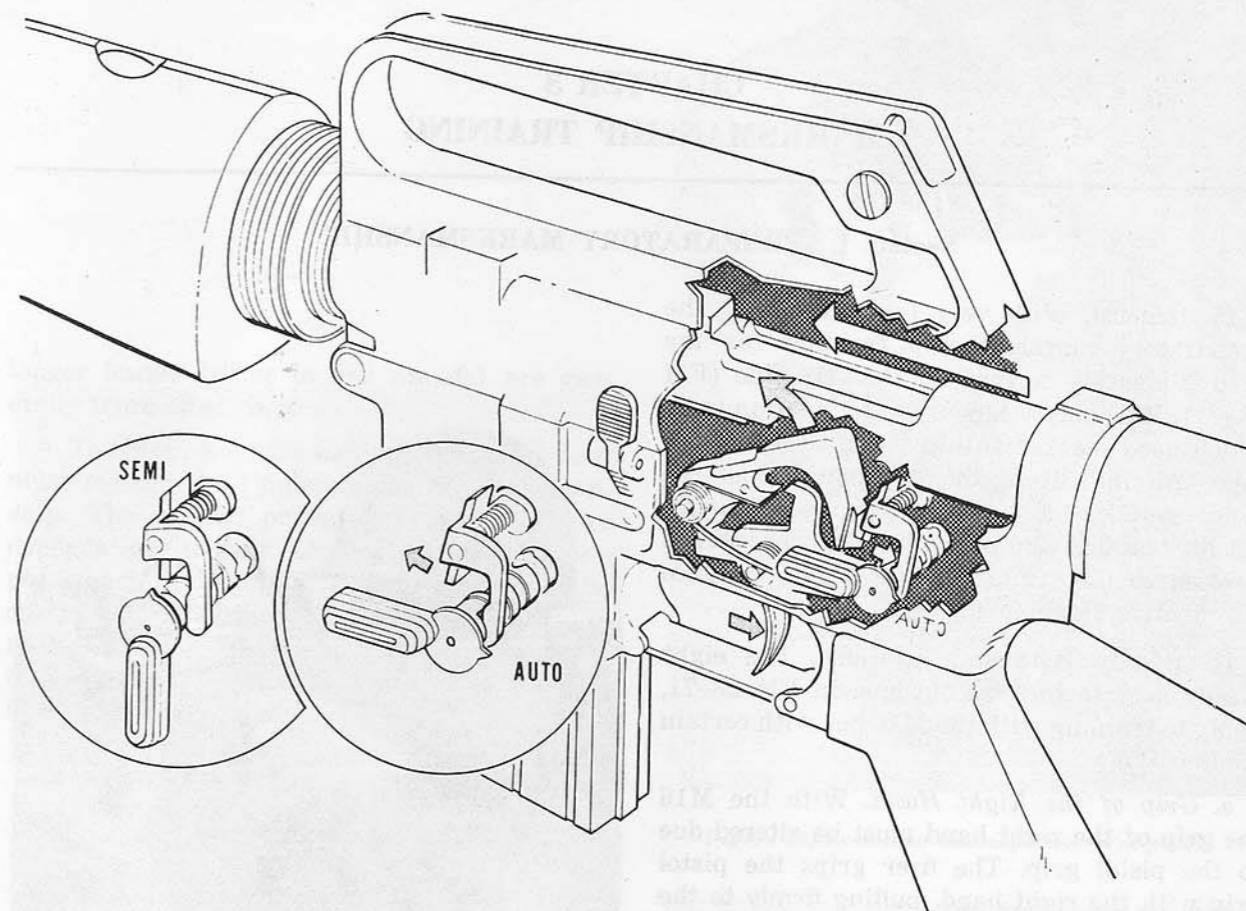

Figure 36. Automatic sear.
- (c) By adding an automatic sear, which catches the upper hook of the hammer, and holds it until the bolt carrier moves forward striking the top of the sear, releasing the hammer, the rifle will fire automatic fire (fig. 36).